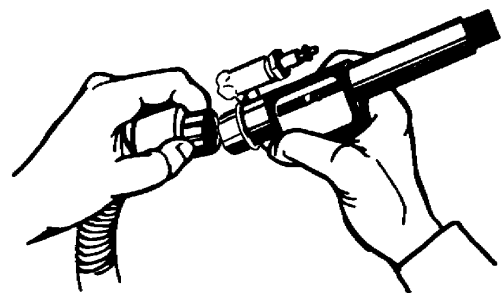

Figure 13
3. Firmly tighten hose connector by hand (see Figure 13).